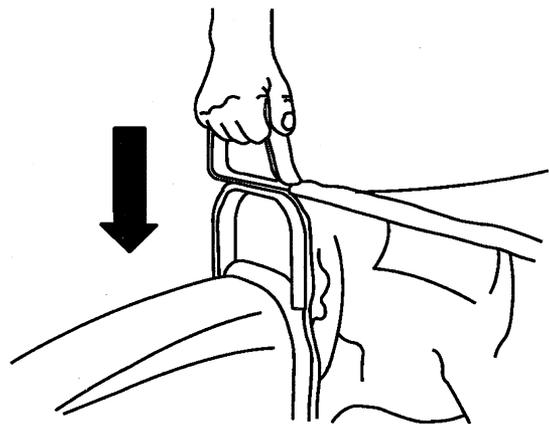

Figure 44
15. Grasp bag assembly handle and slide over flange of grass chute (Fig. 44). Push downward on handle until it seats into position.